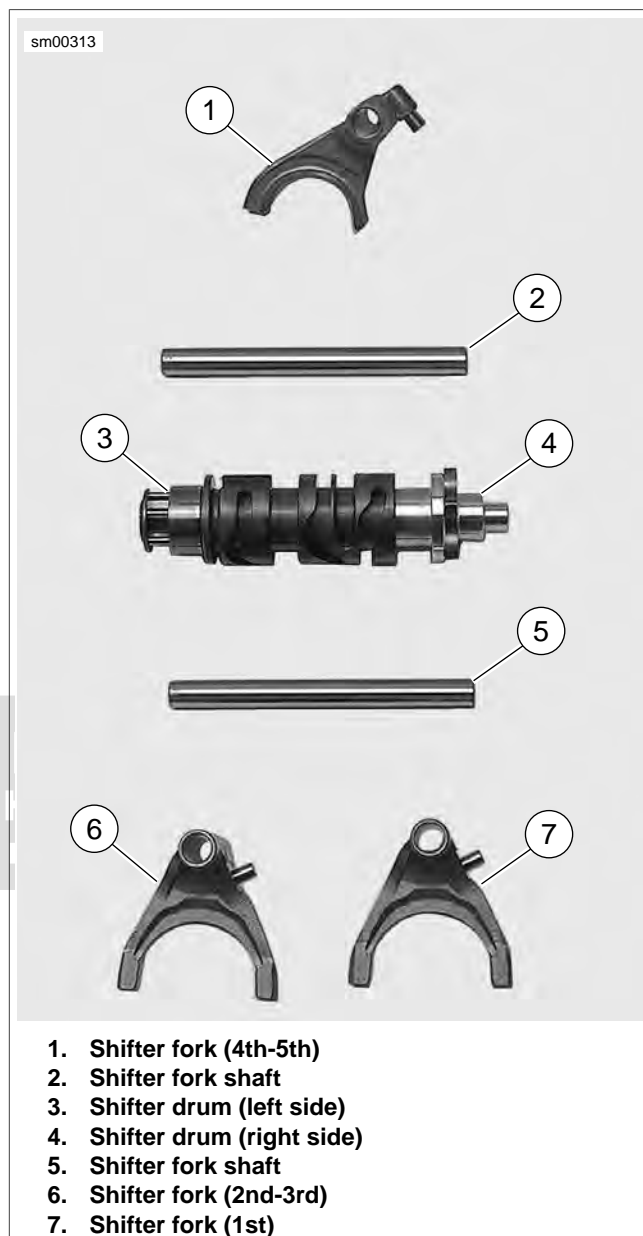

Figure 5-89. Shifter Forks, Drum and Shafts
- See Figure 5-89. Shifter design allows for one common part number for both countershaft shifter forks. As the transmission runs, each shifter fork develops a certain wear pattern with its mating parts. For this reason, it is important that each shifter fork be reinstalled in its original location.